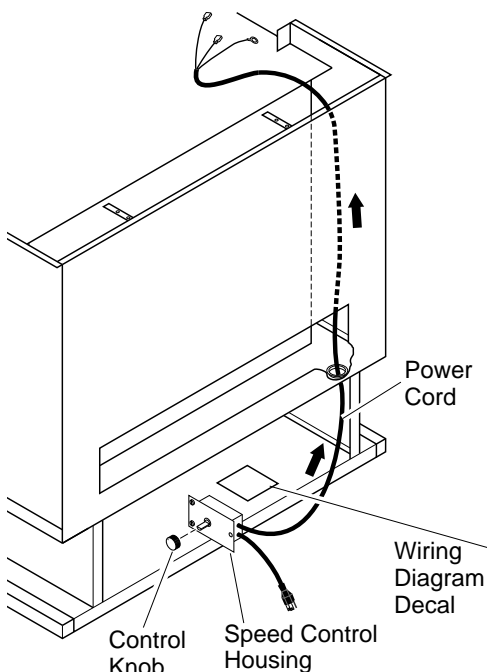
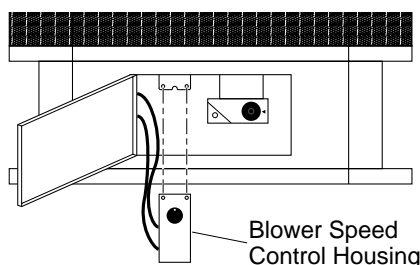

Figure 16 - Routing Power Cord
Figure 17 - Installing Blower Control Housing
10. Route ends of 3-wire power cord up from the lower control compartment through the plastic bushing, then up to the upper cavity of stove (see Figure 16, page 11).
14. Install plastic control knob onto output shaft of speed control housing (see Figure 16). Place speed control housing just inside control compartment door in front of stove (see Figure 17).
15. Using two screws provided in blower kit, mount blower speed control housing to mounting tab in left side of lower control compartment (see Figure 17).
18. Peel off the backing paper and stick the supplied wiring diagram decal on the stove floor as shown in Figure 16.
22. Install plastic control knob onto output shaft of speed control housing (see Figure 21). Place speed control housing just inside control compartment door in front of stove (see Figure 17, page 11).
23. Using two screws provided in blower kit, mount blower speed control housing to mounting tab in left side of lower control compartment (see Figure 17, page 11).